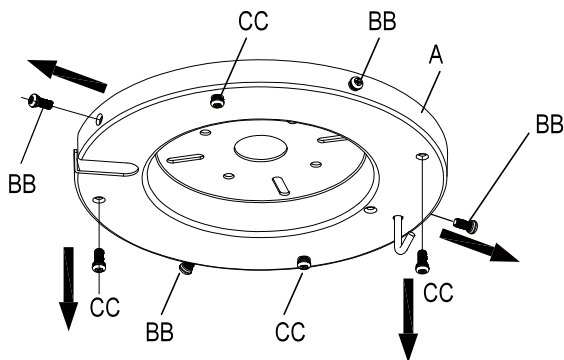

Figure 1
- There are 8 pre-installed screws (4 side-BB; 4 bottom -CC) on the mounting plate (A).
- Remove 2pcs opposite screws from the side and bottom of mounting plate(A). Figure 1.